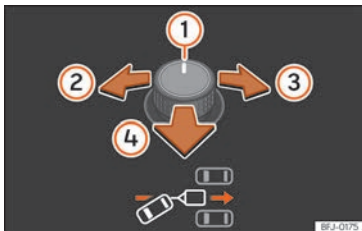
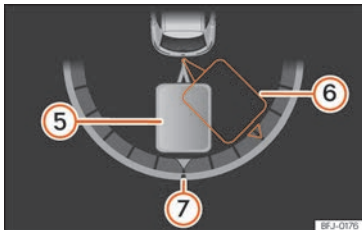

Fig. 293 Rotary exterior mirror controls.: adjust the trailer angle.
Fig. 294 Instrument panel display: engage reverse gear
Key of the **Fig. 293**, »» **Fig. 294**:
- Tilt the rotary control until the desired direction is reached »» **Fig. 293**. A representation of the tow vehicle and trailer set is shown on the instrument cluster screen for guidance purposes »» **Fig. 294**.